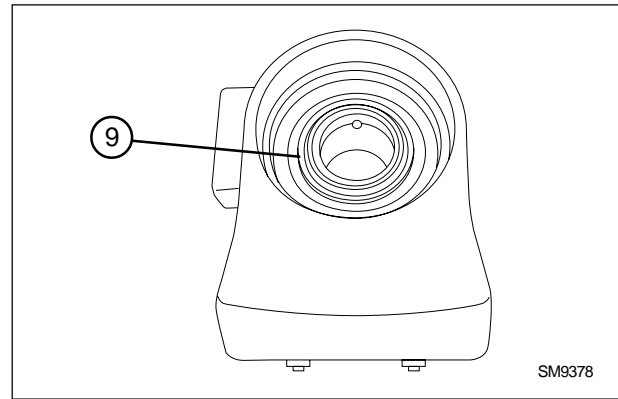

Fig. 24
4. Remove the front seals (9 fig. 24) and keep the matching to avoid mixing them, when reassembling. Remove O-Rings (10).